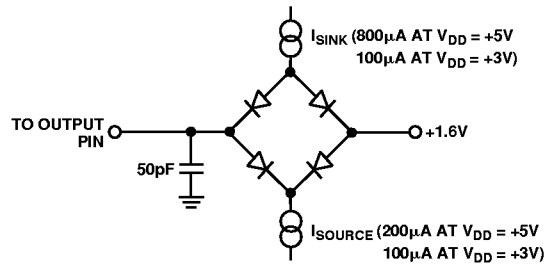

Figure 1. Load Circuit for Access Time and Bus Relinquish Time
- 5These numbers are measured with the load circuit of Figure 1 and defined as the time required for the output to cross the  $V_{OL}$  or  $V_{OH}$  limits.
- 6These numbers are derived from the measured time taken by the data output to change 0.5 V when loaded with the circuit of Figure 1. The measured number is then extrapolated back to remove effects of charging or discharging the 50 pF capacitor. This means that the times quoted in the timing characteristics are the true bus relinquish times of the part and as such are independent of external bus loading capacitances.